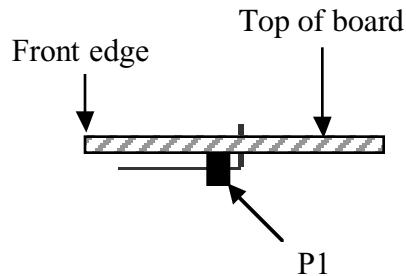

Figure 6-5
- Position 20-pin male right-angle connector P1 on the **bottom** of the RF board (Figure 6-5), but do not solder yet. **Review Figure 3-3 for correct placement.** The short ends of the bent pins are inserted into the holes, and the long ends are parallel to the board.